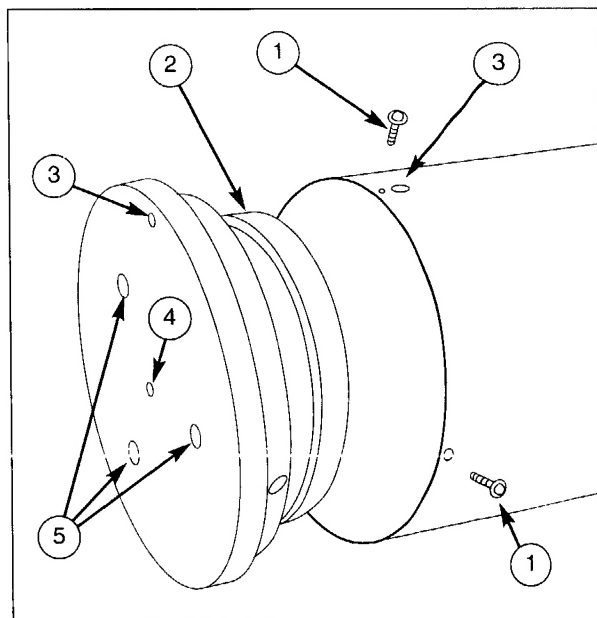

Fig. 3: Installing the Primary Mirror in the Optical Tube Assembly.
Your Meade Starfinder telescope was fully assembled, aligned, and tested at the Meade factory. To ensure safe shipping, the primary mirror was then removed from the telescope. Locate the primary mirror cell assembly (Fig 3). Again, take extreme care not to touch or bump the primary mirror.
3. **Installing the Primary Mirror:** (Refer to Figure 3) You will note that there is a colored marker on the rear of the telescope tube. There is a corresponding colored marker (3, Fig. 3) on the mirror cell. Carefully slide the mirror cell into the rear of the tube, ensuring that the two colored markers line up. Secure the cell to the tube with the four provided large-headed screws (1, Fig. 3). Again, do not overtighten the screws. A firm feel is sufficient.